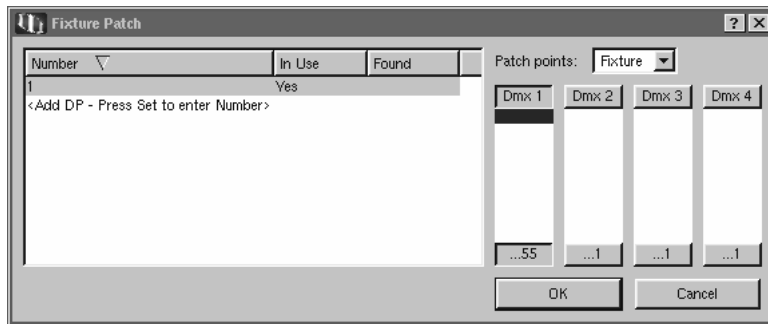

Figure 7-2. The Fixture Patch window
2. Select the fixture by clicking on it, then select Patch@ to open the Fixture Patch window. See *Figure 7-2*.